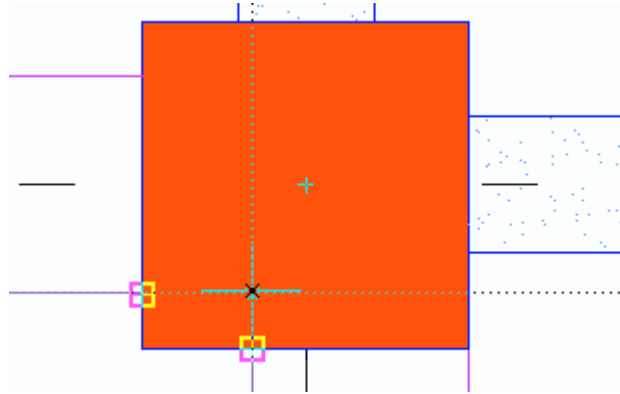

Figure 72: Selecting the first point
3. Define the first point of the roof at the **D20** intersection as in Figure 72.